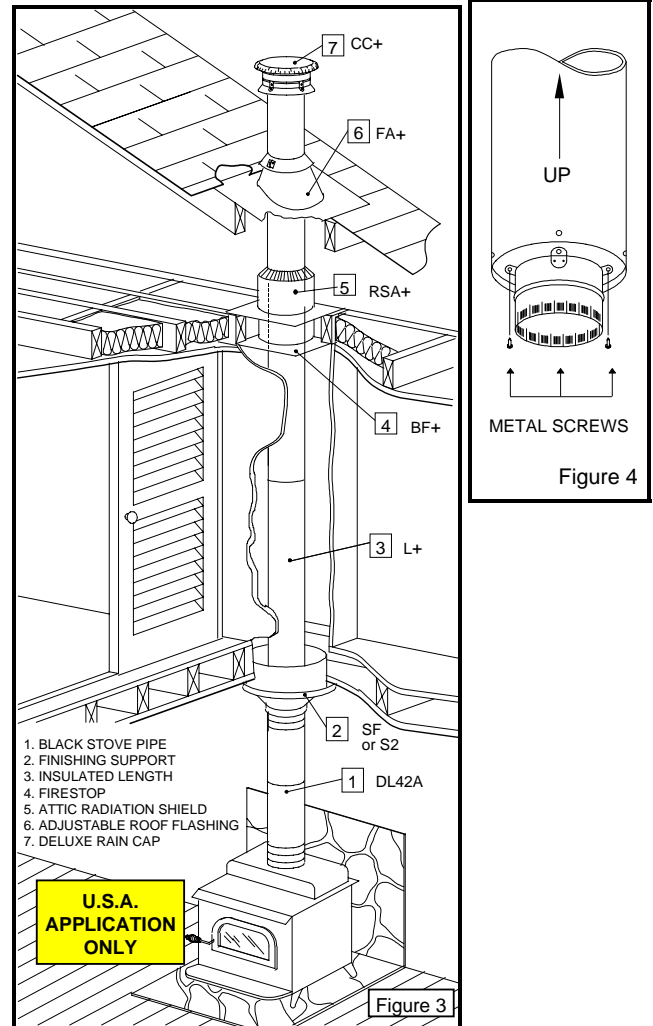

Figure 3
- 4 Put this first chimney length in the support. Push it down firmly in place (see Fig. 3).